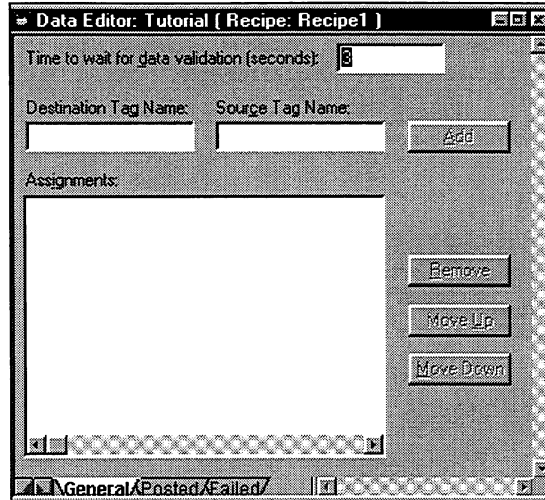

Figure 9-3. Recipe Editor Form
5. Press ENTER to open the Recipe Editor form, shown in Figure 9-3.